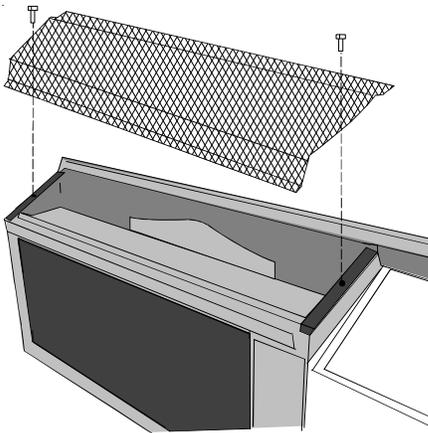

Figure 1
3. Remove motor cover by unscrewing three (3) screws.
4. Remove the discharge screen by unscrewing two screws holding the screen to the blower cut off. Set screen aside (Figure 1).